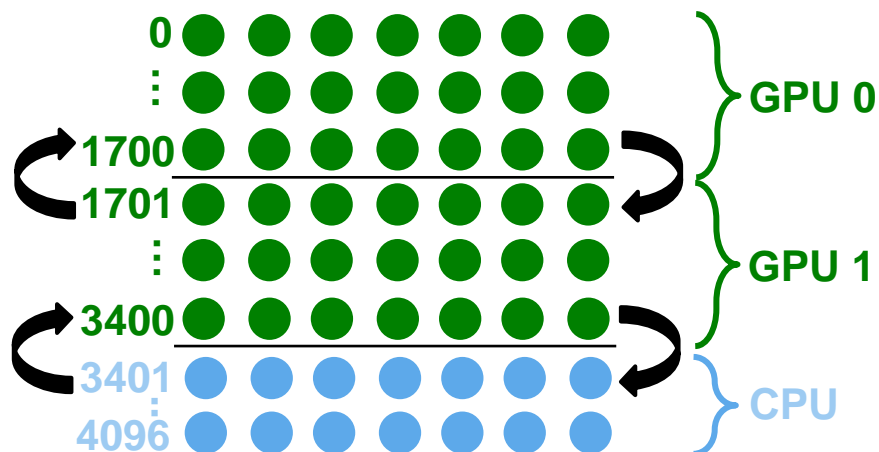

Figure 5: Work distribution between two GPUs and a 2-socket CPUs
To distribute the work, we follow the strategy described in section 2.6 *Heterogeneous Computing*. The only difference is that we now have three partitions: one on GPU 0, one on GPU 1 and one on the CPU (as shown in Figure 5).
- Before the swap loop, the halo data must be exchanged (see Figure 5) which can be done using the `update` directive. The first GPU needs to update its last matrix row, the second GPU needs to update its first and last row and the CPU needs to update its first row. Make sure that the data is synchronized.